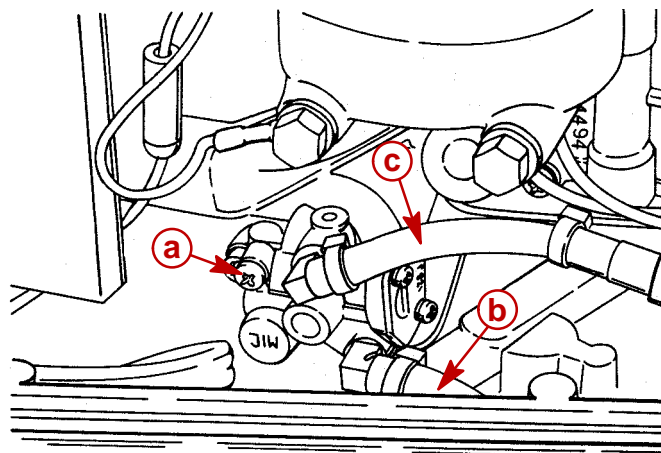

Figure 4
- With engine not running, place a shop towel below the oil pump. Loosen bleed screw three to four turns and allow oil to flow from bleed hole until no air bubbles are present in inlet hose. (Figure 4) Torque bleed screw to 25 lb. in. (2.8 Nm). This procedure also allows oil pump to fill with oil.